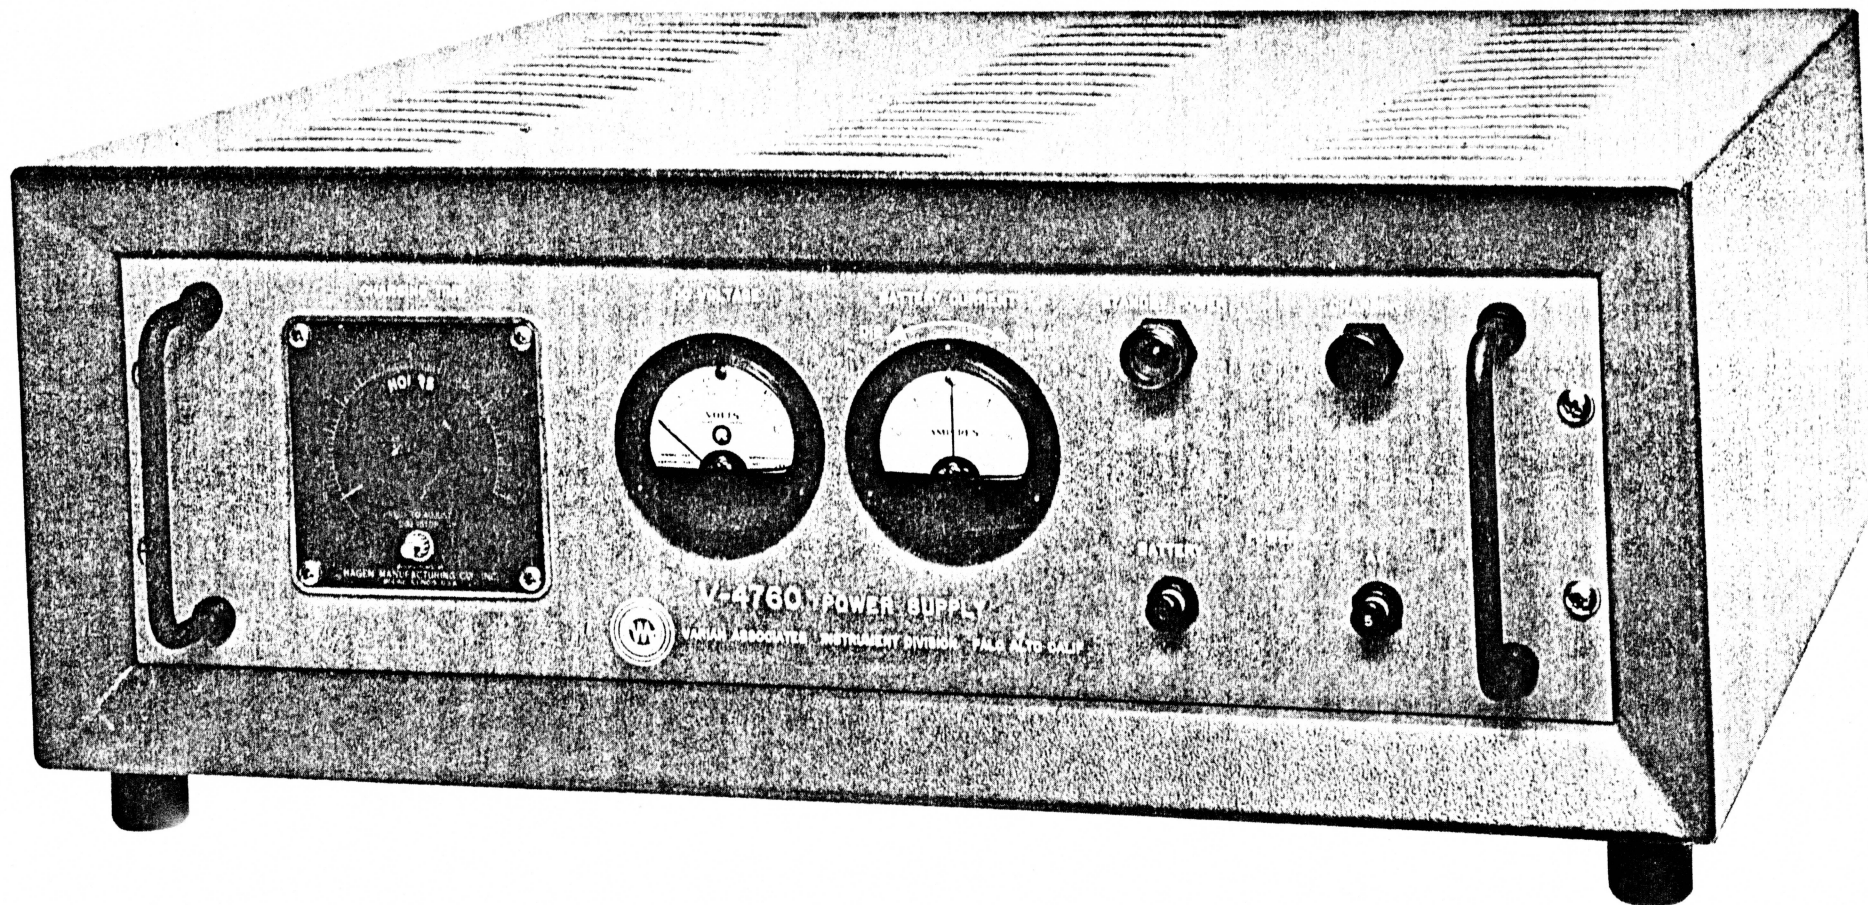

FIGURE 3-2. FRONT PANEL, V-4760 POWER SUPPLY
3.1.2 V-4760 Power Supply Front Panel (See Figure 3-2)